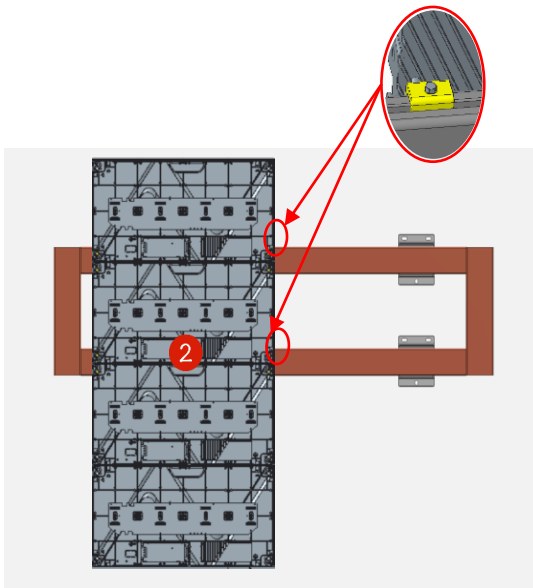

Figure 1
Step 2: Install the box columns in the order of 2-3-1-4, with the hook connectors on the back of the box hooked into the grooves of the back frame beam profile. Move the box so that it is centered and aligned with the marking line on the crossbeam, and install the box safety screws using two M4X10 screws (as shown in Figs. 1 and 2), install the box columns in order and lock the left and right connecting bolts on the box (as shown in Fig. 3).